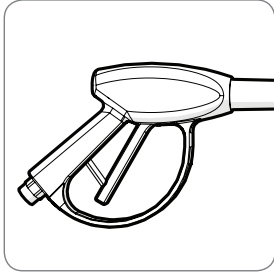

Fig. 6
- Check that the trigger switch on the jet lance is in the locked position. (**Fig. 6**)